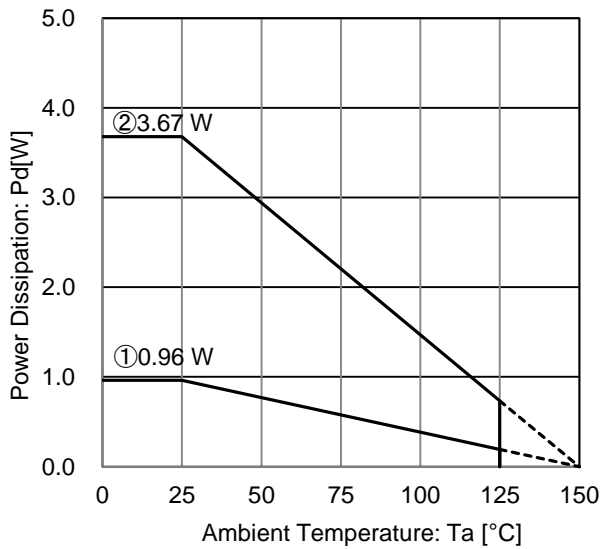
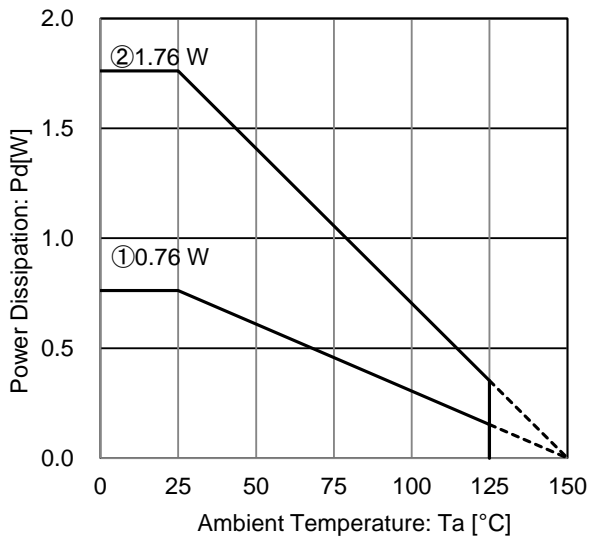

Figure 25. HTSOP-J8 Package Data
Figure 27. SOT223-4(F) Package Data
Refer to the heat mitigation characteristics illustrated in Figure 25 to Figure 27 when using the IC in an environment of  $T_a \geq 25^\circ\text{C}$ . The characteristics of the IC are greatly influenced by the operating temperature, and it is necessary to operate under the maximum junction temperature  $T_{\text{max}}$ .
At  $T_a = 125^\circ\text{C}$  with Figure 25 ② condition, the calculation shows that ca 71.5mA of output current is possible at 10.2V potential difference across input and output.
At  $T_a = 125^\circ\text{C}$  with Figure 25 ② condition, the calculation shows that ca 85.8mA of output current is possible at 8.5V potential difference across input and output.
At Ta=125°C with Figure 27 ② condition, the calculation shows that ca 34.3mA of output current is possible at 10.2V potential difference across input and output.
At Ta=125°C with Figure 27 ② condition, the calculation shows that ca 41.1mA of output current is possible at 8.5V potential difference across input and output.